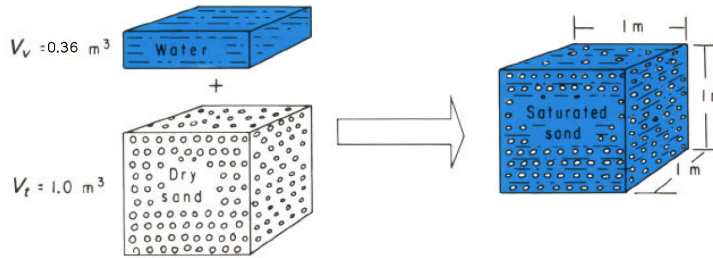

Figure 1: Cubic meter of saturated geologic material
- Figure 1 depicts a cubic meter of material that when saturated contains 0.36 cubic meters of liquid.